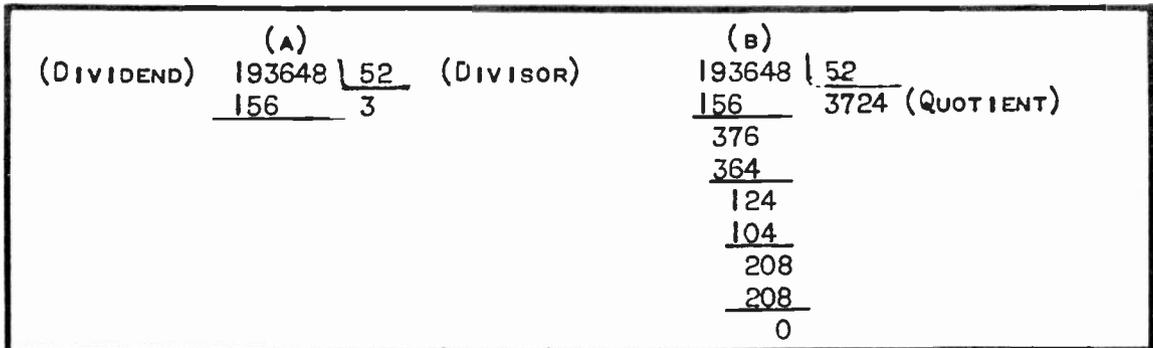

FIG. 10
NOW LET US WORK OUT A PROBLEM IN DIVISION, AS AN EXAMPLE, DIVIDING 193,648 BY 52. WE COMMENCE BY LAYING OUT THE WORK AS AT (A) IN FIG. 10. THAT IS, BY WRITING THE DIVISOR SLIGHTLY TO THE RIGHT OF THE DIVIDEND AND PLACING A BRACKET AROUND IT AS SHOWN. THE QUOTIENT OR ANSWER IS TO